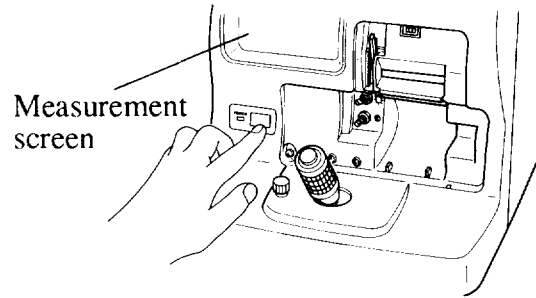

Figure 7-5
- (4) While the measurement screen is displayed press the [PRINT] switch (see Figure 7-5).